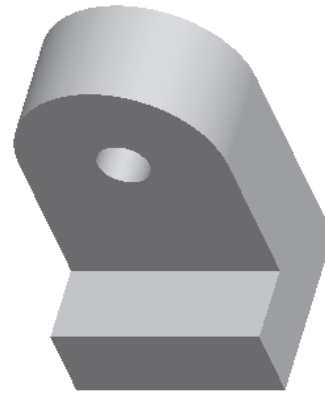

Figure 4-62 Second extruded feature with the base feature
7. Now, choose the **Build feature** button from the **Extrude** dashboard to confirm the feature creation. The model orients on the screen, as shown in Figure 4-62. You can also use the middle mouse button to spin the model.